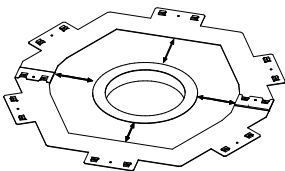

Fig. 2
- 2- Position the central ring so that it is centered with the roof drain (Fig. 2).